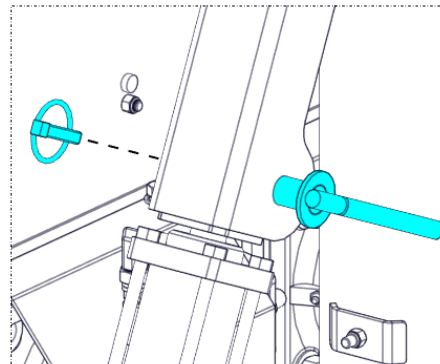

Figure 4.15
- 4) Remove the lynch pin and transport lock pin from the cylinder transport lock (Figure 4.15).